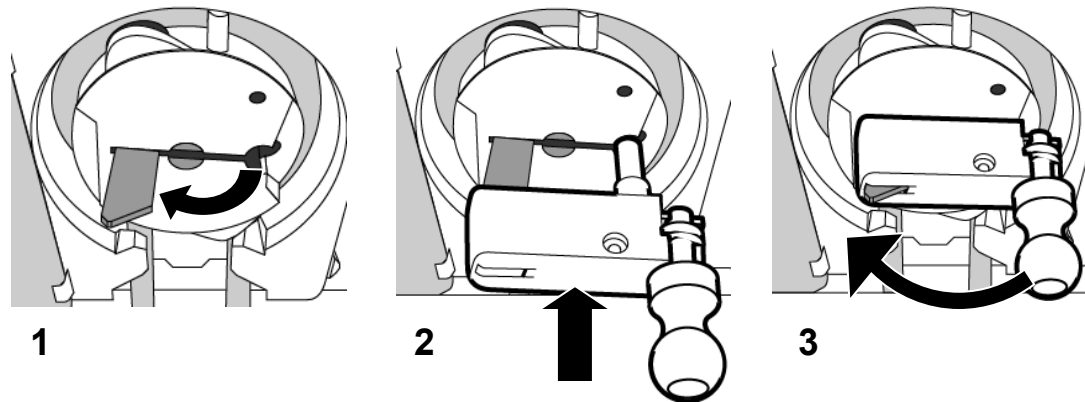

Figure 81 – Inserting the Blood Pump Crank
6. Open the pump door and flip the rotor latch outward (see Figure 81 #1).
7. Align the slot and the spindle on the crank handle with the rotor latch and hole as shown in Figure 81 #2 above.
8. Slide the crank handle in as far as it will go. The crank latch will protrude slightly from the crank handle (see Figure 81 #3).
2. Open the pump door and flip the rotor latch outward (see Figure 81 #1).
3. Align the slot and the spindle on the crank handle with the rotor latch and hole as shown in Figure 81 #2 above.
4. Slide the crank handle in as far as it will go. The crank latch will protrude slightly from the crank handle (see Figure 81 #3).